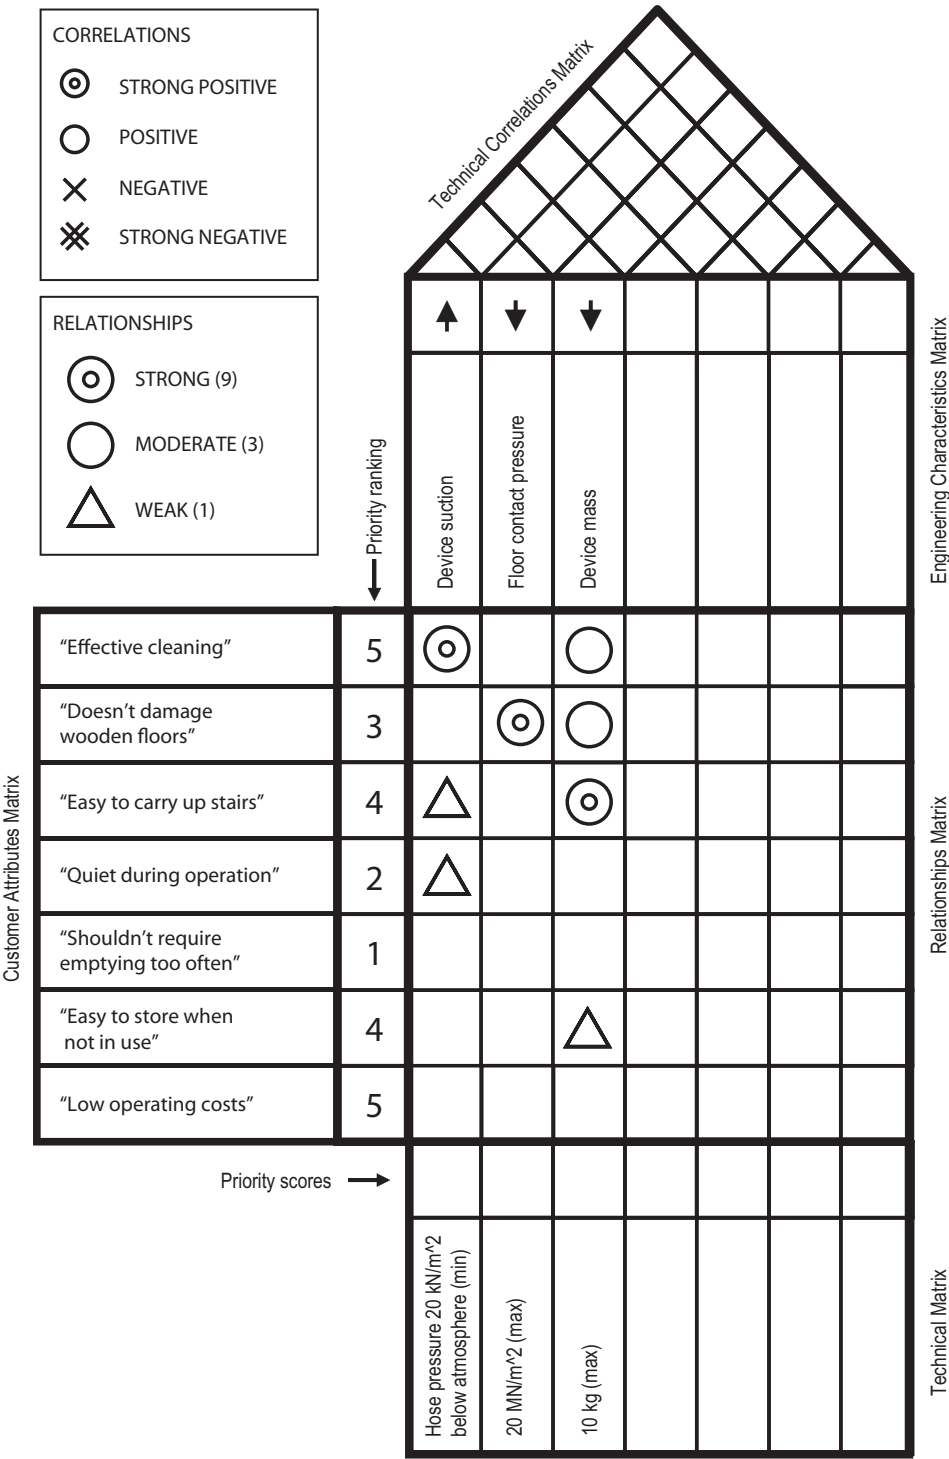

Fig. 1
Supplementary page: one extra copy of Fig. 1 (Question 1)
1 A partially completed QFD (House of Quality) chart for a domestic vacuum cleaner is shown in Fig. 1.
An additional copy of Fig. 1 is attached to the back of this paper. It should be detached and handed in with your answers.
- (b) Using the additional copy Fig. 1 provided, add four additional Engineering Characteristics and their corresponding Technical details. Complete the Relationships Matrix by filling in an appropriate symbol for each relevant cell. [20%]
Extra copy of Fig. 1 : QFD (House of Quality) chart for Question 1.